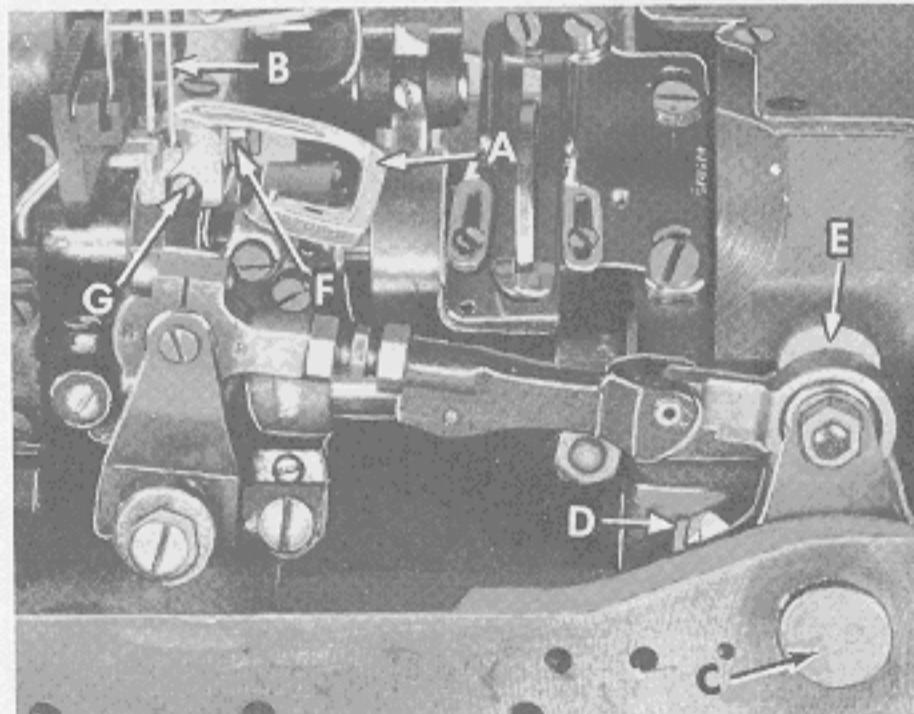
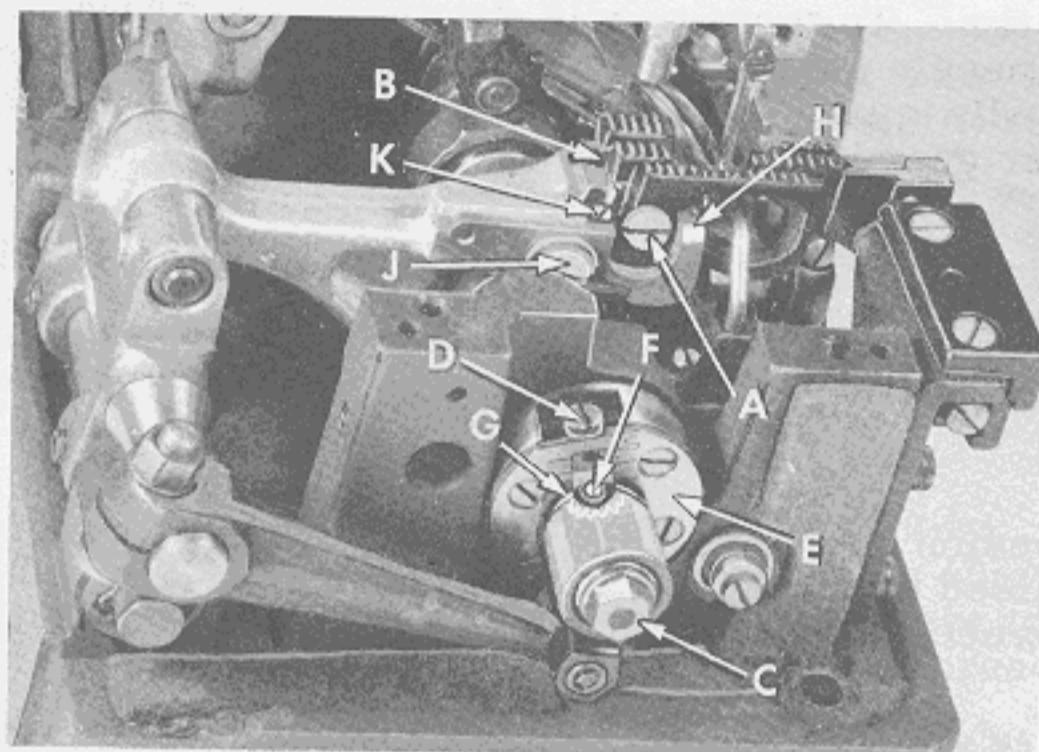

Fig. 5
Fig. 8
Insert the front looper (A, Fig. 5) in the looper rocker and turn handwheel in operating direction until the point of the looper, moving to the left is even with the left side of right needle (B). Note the height of the eye of the needle with respect to the looper point,
then turn handwheel in the reverse direction until the looper point again moves to the left and is even with the left side of the right needle. If the motions synchronize, the height of the eye of the needle with respect to the looper point will be the same. A variation of .005 inch (.127 mm) is allowable. If the distance from the eye of the needle to the point of the looper is greatest when the pulley is turned in the operating direction, move the looper drive shaft synchronizing stud (C, Fig. 5) to the rear. Moving it in the opposite direction acts the reverse.
Moving of the looper drive lever shaft synchronizing stud is accomplished as follows: Loosen the clamp screw (D, Fig. 5) of the looper drive lever (E). To move stud to rear (away from operator),
NOTE: Looper drive lever (E, Fig. 5) has an oil seal collar and an "O" ring between it and the bed casting. All end play must be removed from the looper drive lever rocker shaft by compressing the "O" ring until lever (E) and oil seal collar make metal to metal contact with the bed casting. Tighten screw (D).
The tips of the feed dog teeth should extend $1\frac{1}{4}$ tooth depth or approximately $3/64$ inch (1.19 mm) above the throat plate and parallel with the throat plate at high point of travel. The height can be adjusted by loosening screw (A, Fig. 8) which holds the feed dog in position, turn height adjusting screw (B) as required and retighten screw (A). If feed dog teeth are not parallel with the throat plate, loosen nut (F, Fig. 5) and turn screw (G) clockwise to lower the front teeth, or counterclockwise to raise the front teeth. Retighten nut (F) when feed dog is set properly.
Set the stitch to required length. This is accomplished by loosening the locknut (C, Fig. 8) 1/2 turn (it has a left hand thread) on the end of the stitch regulating stud and turning the stitch adjusting screw (D) located under the left end of the cloth plate, in the head of the main shaft (E), which is marked with "L" and "S". Turning the
Set the rear needle guard (H, Fig. 8) horizontally so that it does not quite contact the rear of the needles when at its most forward point of travel. A clearance of .005 inch (.127 mm) is permissible. It should be set as low as possible, yet have its vertical face approach within about $3/64$ inch (1.19 mm) of the needles, until the points of the loopers moving to the left, are even with the needles. To move the guard forward or rearward, merely loosen screw (J), move needle guard as required, and retighten screw. To raise or lower needle guard, loosen screw (J) and turn screw (K) clockwise to lower needle guard or counterclockwise to raise it. Retighten screw (J) after guard is properly set.